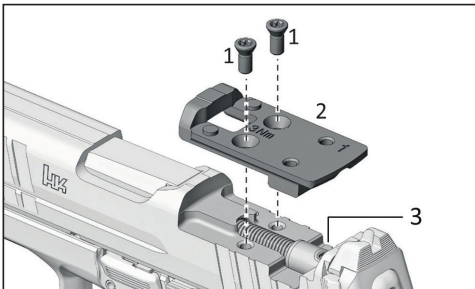

Figure 16 – Tighten screws
4. Insert screws into adapter plate (Fig. 16).